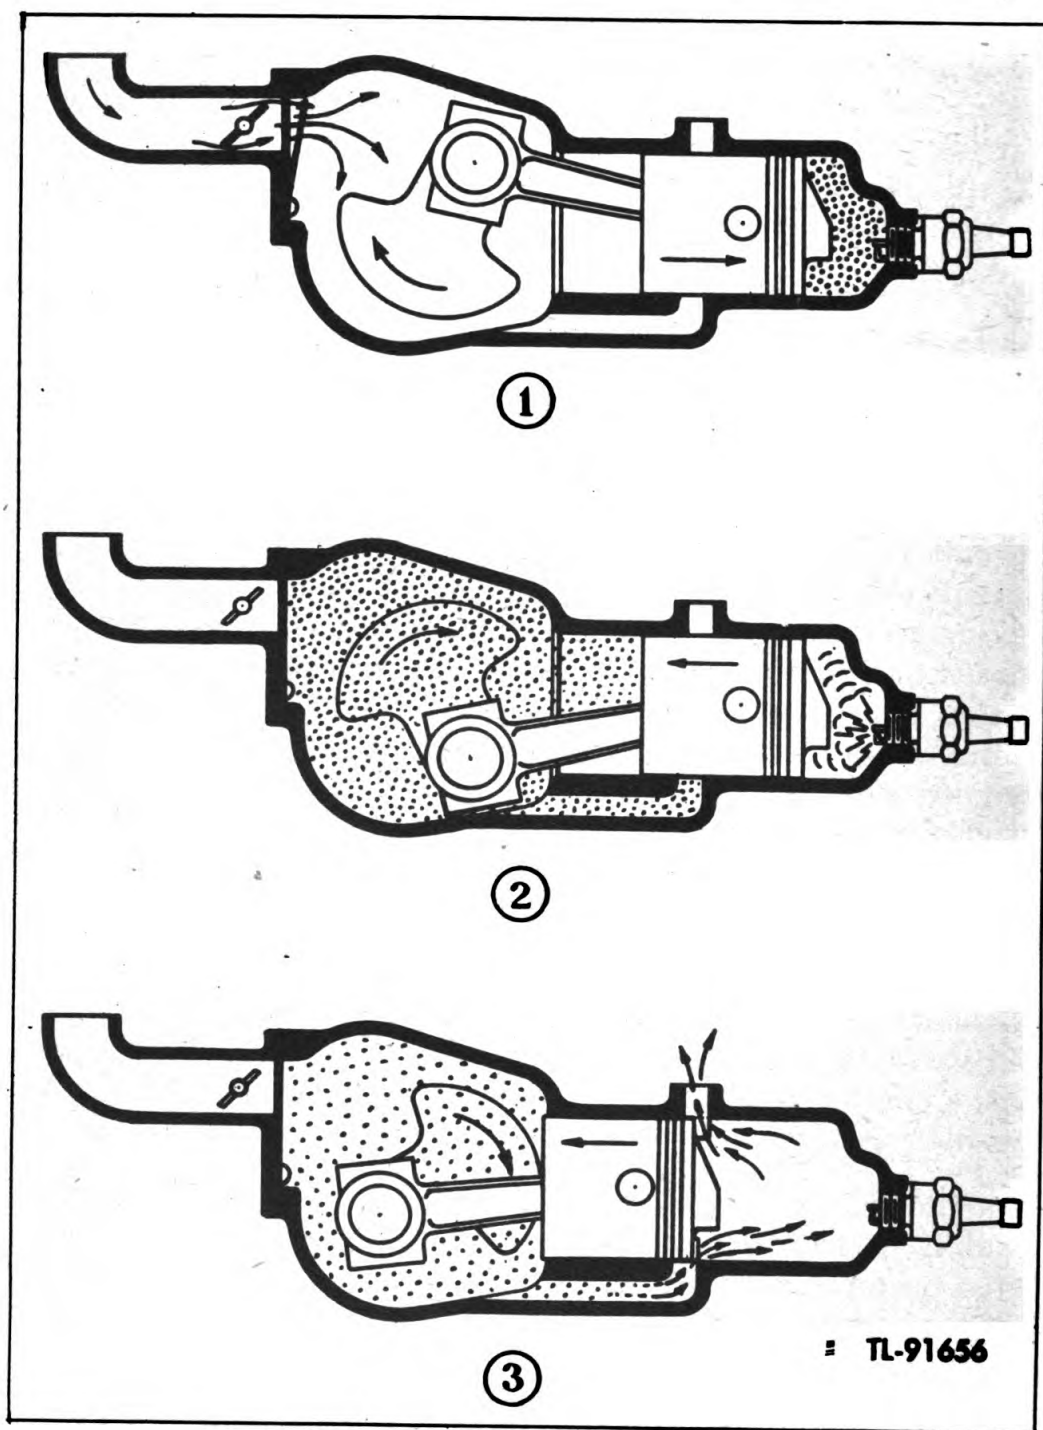

Figure 8. Principle of two-cycle engine
a. As shown in figure 8 (1), the piston, on its up stroke (compression), draws a charge of fuel into the crankcase through a reed valve attached to the rear of the carburetor. At the same time, a charge previously drawn into the crankcase and by-passed into the combustion chamber is compressed above the piston.
b. The charge in the combustion chamber is ignited when the piston is $\frac{1}{8}$ inch from top dead center (fig. 8 (2)). The expansion of the burning gases forces the piston down on its power stroke. The descending piston compresses the charge previously drawn into the crankcase.
c. Near the bottom of its downward (power) stroke (fig. 8 (3)), the piston uncovers the exhaust ports, releasing the exhaust gases. At almost the same moment, the piston uncovers the intake ports, permitting the fuel charge compressed in the crankcase to rush through into the combustion chamber.